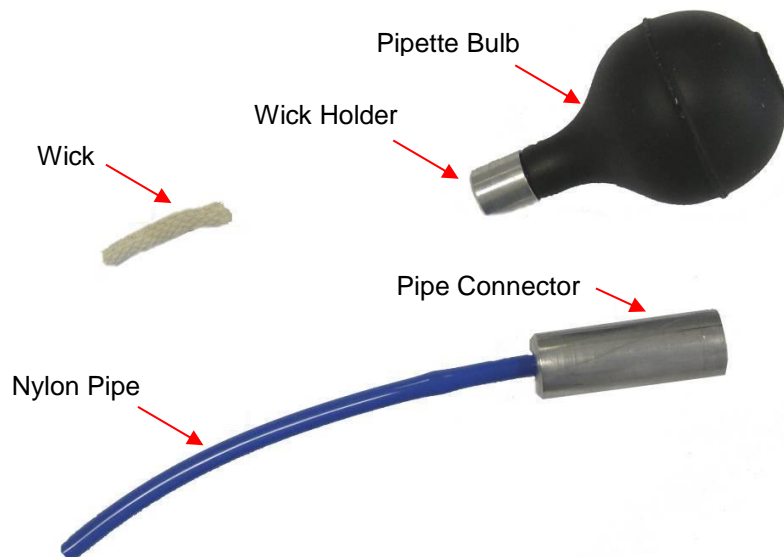

Figure 67 Smoke Tester
- a. Cut a length of wick approximately 30 mm long. Assemble the smoke tester by pushing the wick into the wick holder fitted with the pipette bulb. Press the nylon pipe into the pipe connector (refer to Figure 67).